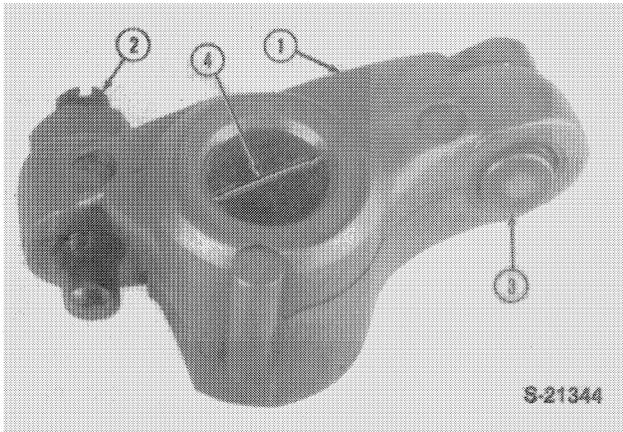

FIGURE 1-43
5. Determine the rocker arm to shaft clearance by subtracting the rocker shaft diameter from the rocker arm bore diameter. Replace the rocker shaft and/or rocker arm if the clearance exceeds 0.008 in. (0.2 mm), Figure 1-43.